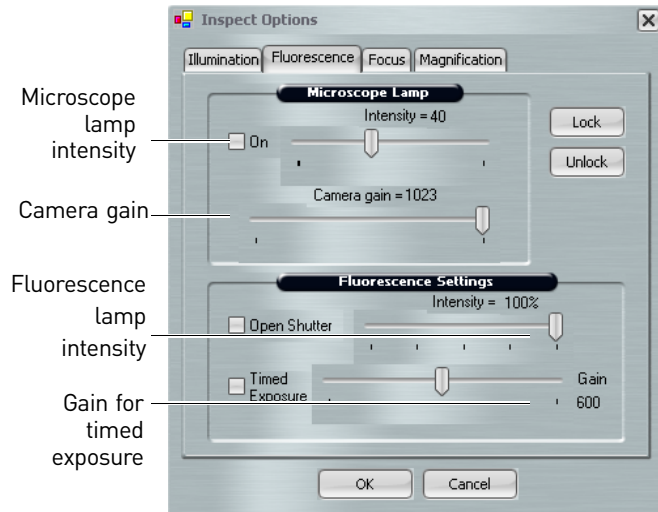

Figure 36 Fluorescence tab.
3. Make sure that the Microscope Lamp Intensity is turned off (unchecked) (see Figure 36).
- a. Set the Fluorescence Lamp Intensity to 100% (see Figure 36).
- b. Set the Camera Gain to the maximum setting (see Figure 36).
- e. If needed, check the Microscope Lamp on (see Figure 36) and adjust the intensity to allow minimal brightfield light.
- a. Adjust the Camera Gain (see Figure 36) to the lowest possible value to still allow sufficient signal. (Higher values increase image pixilation.)
- b. Set the Brightness (exposure time) (see Figure 36) to 1s or less. (Higher values result in significant delay in live image updates.)
- c. If the live image displays with very bright fluorescence intensity, lower the Fluorescence lamp intensity (see Figure 36).
1. Set Camera Gain (see Figure 36) for optimal fluorescence image.
2. Adjust the Microscope Lamp Intensity (see Figure 36).
- Use the Gain setting next to Timed Exposure (see Figure 36) only with the Timed Exposure feature. Adjusting this setting outside of Timed Exposure will not result in a change.